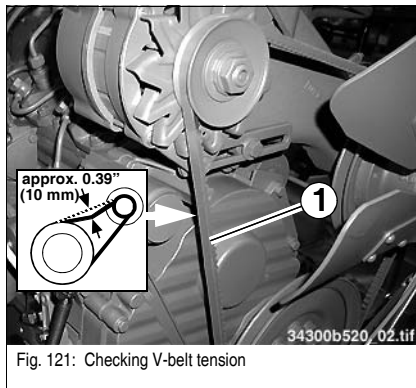

Fig. 121: Checking V-belt tension
- Use a suitable tool to push the alternator in the direction of arrow A until the correct V-belt tension is obtained (fig. 121).
- Repeat the V-belt tension (fig. 121) procedure.